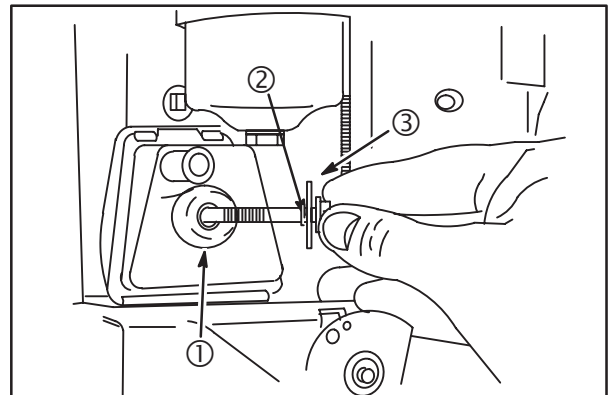

Fig. 9
2. Place large O-ring (1) on breather, **Fig. 9.**
3. Assemble washer (3) and small O-ring (2) to screw.